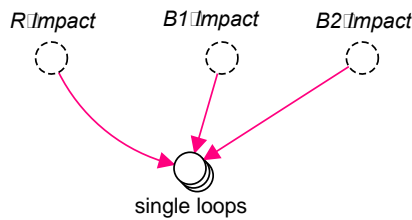

Figure 23: Connect impacts to "single loops"
- Ghost and connect the 3 impact converters from step 3 to *single loops*, Figure 23: